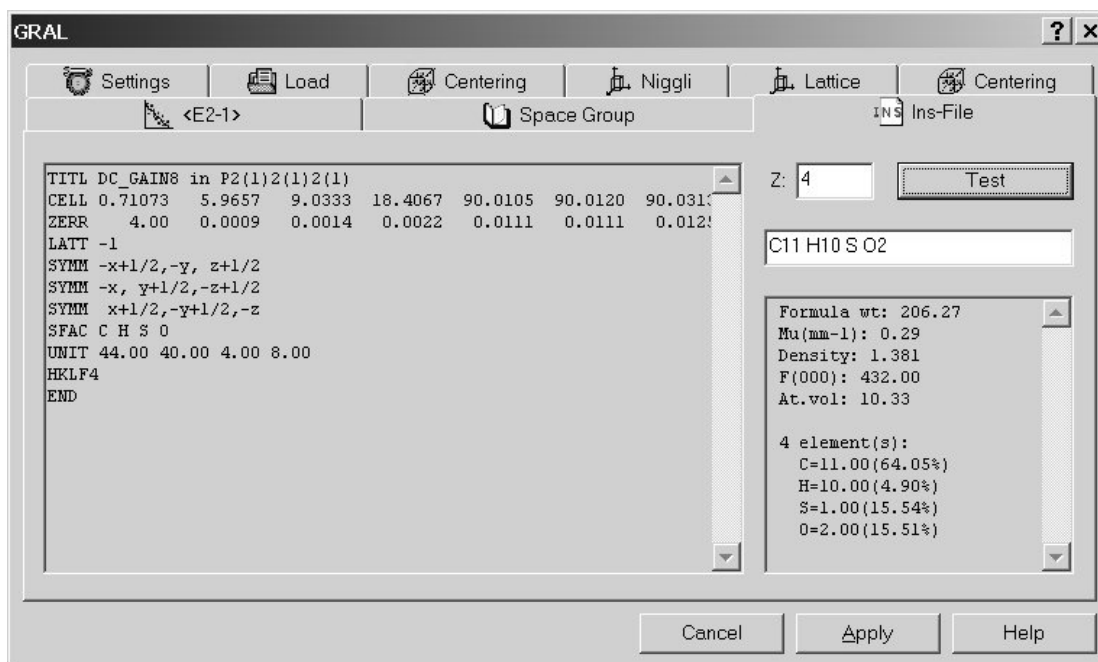

Figure 6.5.40 Screenshot of the GRAL plug-in INS-File Window
- Finally, GRAL prepares a *.ins file for use with structure solution programs. The user can edit the molecular formula and Z number in the relevant boxes shown in figure 6.5.40. Clicking on “**Test**” allows the user to check the formula weight, absorption correction mu, density etc against the molecular formula and Z number. The current contents of the *.ins file are displayed on the left hand side of the screen. Clicking on “**Apply**” creates the *.ins and *.hkl file. Finally click on “**Cancel**” to exit the GRAL plug-in.